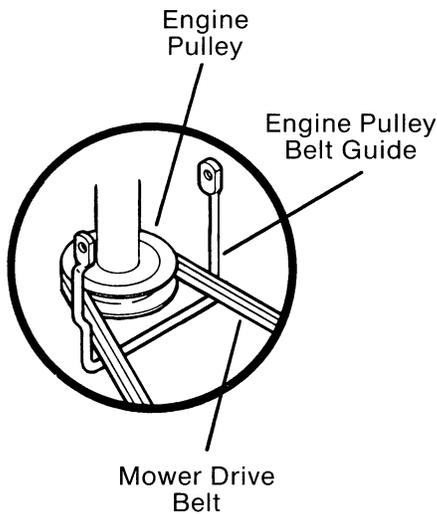

FIG. 7
- L. Route mower drive belt forward and through engine pulley belt guide and around groove in lower engine pulley. (Fig. 7)
- Slip belt off of lower engine pulley, (Fig. 7) then slip belt back through belt guide.